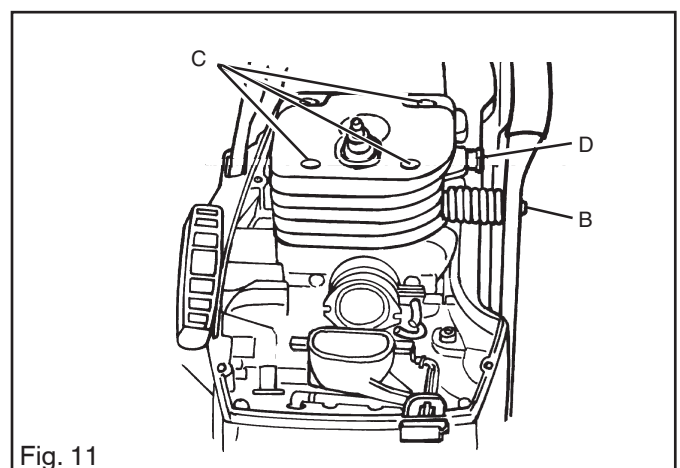

Fig. 11
4. Fit the decompression valve (D). See fig. 11. Tighten the bolt with correct torque (*Refer to "4 Service data" on page 10*).
8. Install the cylinder base gasket with the four bolts (See fig 11 pos. C) and tighten them alternately (See fig. 11) with correct torque (See Service Data).
9. Fit the anti-vibration spring (B) on the cylinder. See fig. 11. Tighten the bolt with correct torque (See Service Data).